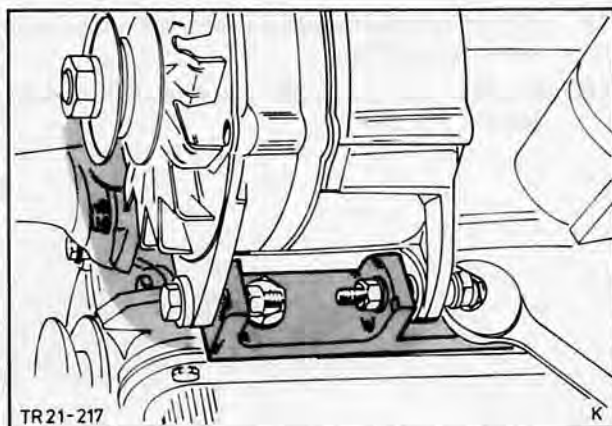

Fig. 31. Remove alternator with bracket
7. Slacken alternator bracket. Take off V-belt and remove alternator with its bracket (3 bolts), Fig. 31. Remove fan and pulley (4 bolts).